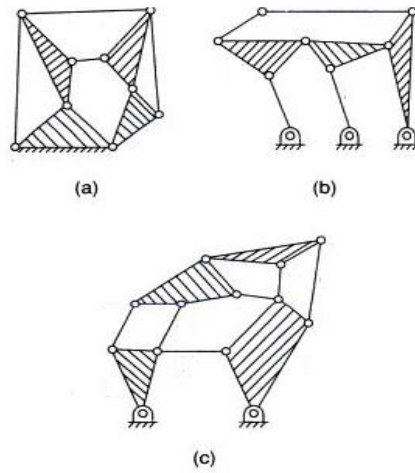

Fig.5A: Kinematic Linkages
- 3B.** Five masses M_1, M_2, M_3, M_4 and M_5 revolve in the same plane. Magnitudes of M_1, M_2 and M_3 , are 5, 2.5 and 4kg, respectively. Angular positions of M_2, M_3, M_4 and M_5 are $60^\circ, 135^\circ, 210^\circ$ and 270° from M_1 determine the masses M_4 and M_5 when system is dynamically balanced. Assume all masses revolve at equal radii of 1m. (04)
- 4A.** A cam follower has uniform acceleration and retardation motion. Derive an expression for its Maximum velocity and acceleration during its out stroke and return stroke. (04)
- 4B.** Define Grashof's law. Discuss all the possible cases for a four-bar mechanism with all the four links of unequal length satisfying Grashof's law. (03)
- 4C.** What are the different types of constrained motion? Elaborate on each type with a suitable example. (03)
- 5A.** For the kinematic linkages shown in the Fig 5A. Calculate the number links, joints and (06) degrees of freedom.